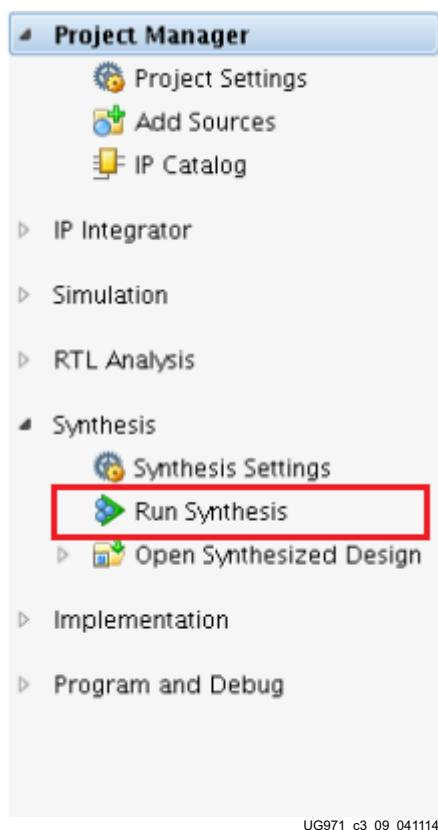

Figure 3-9: Run Synthesis
8. Click **Run Synthesis** in the Flow Navigator, which synthesizes the complete design (Figure 3-9).